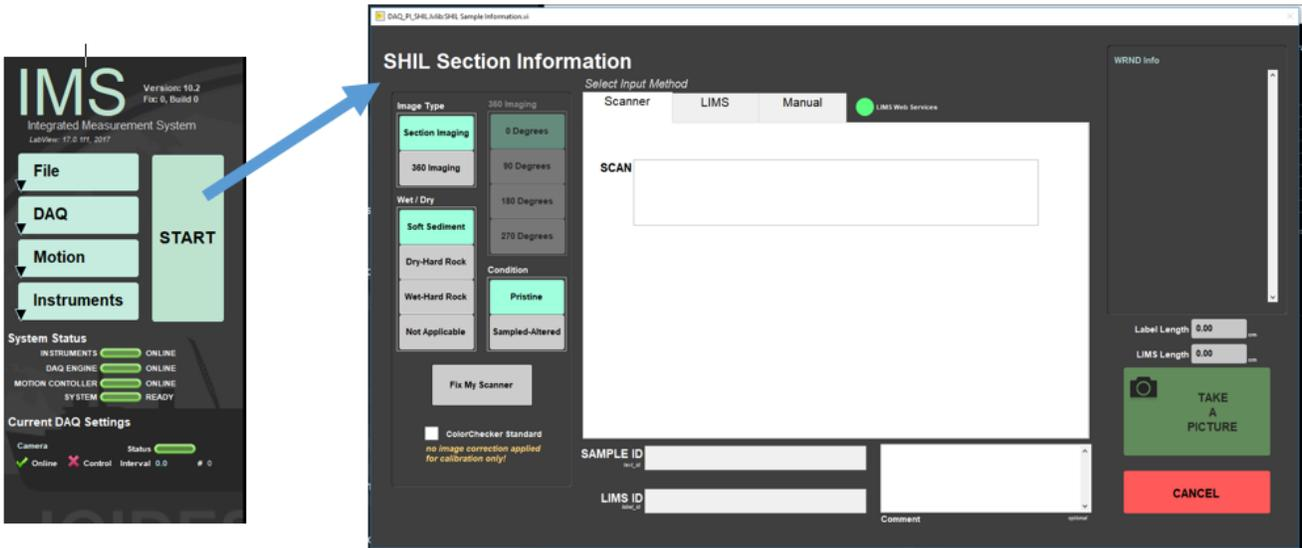

Figure 29. Sample Information window
1. In the IMS Main Panel click **Start** and the Sample Information Window will open (Figure 29)